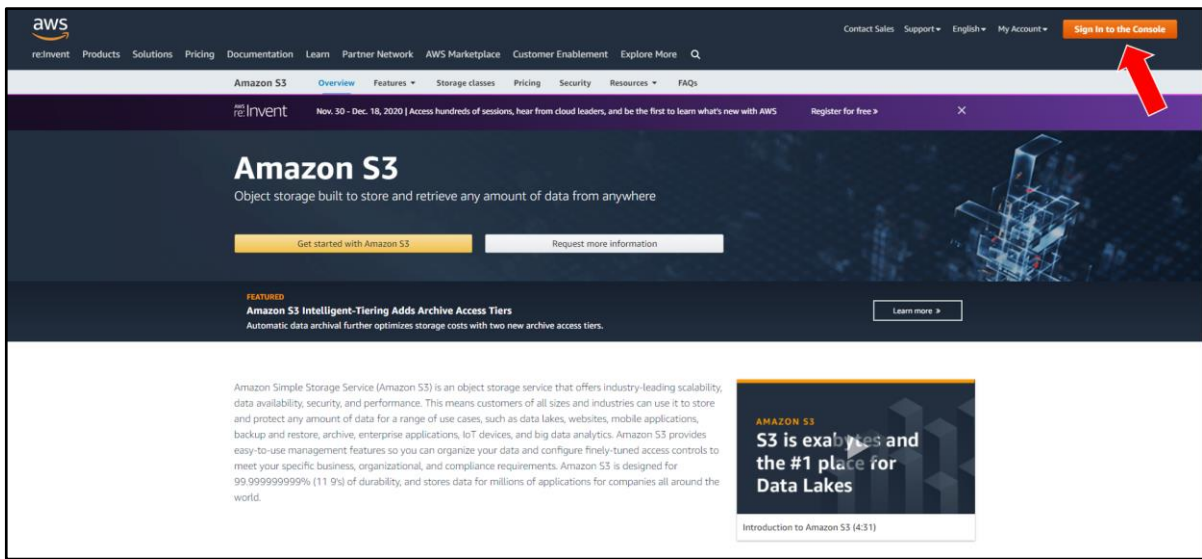

Figure 8: Sign In to AWS Console
1. Sign up for an AWS account for free and log in to the console (see Figure 8).